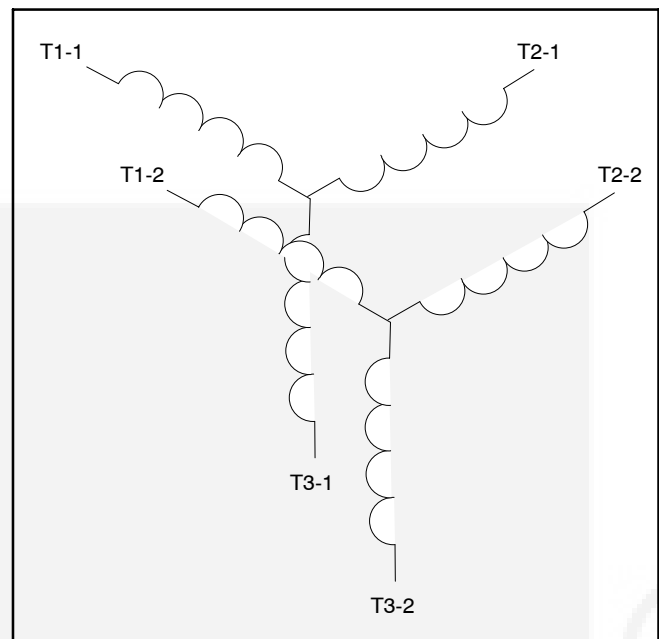
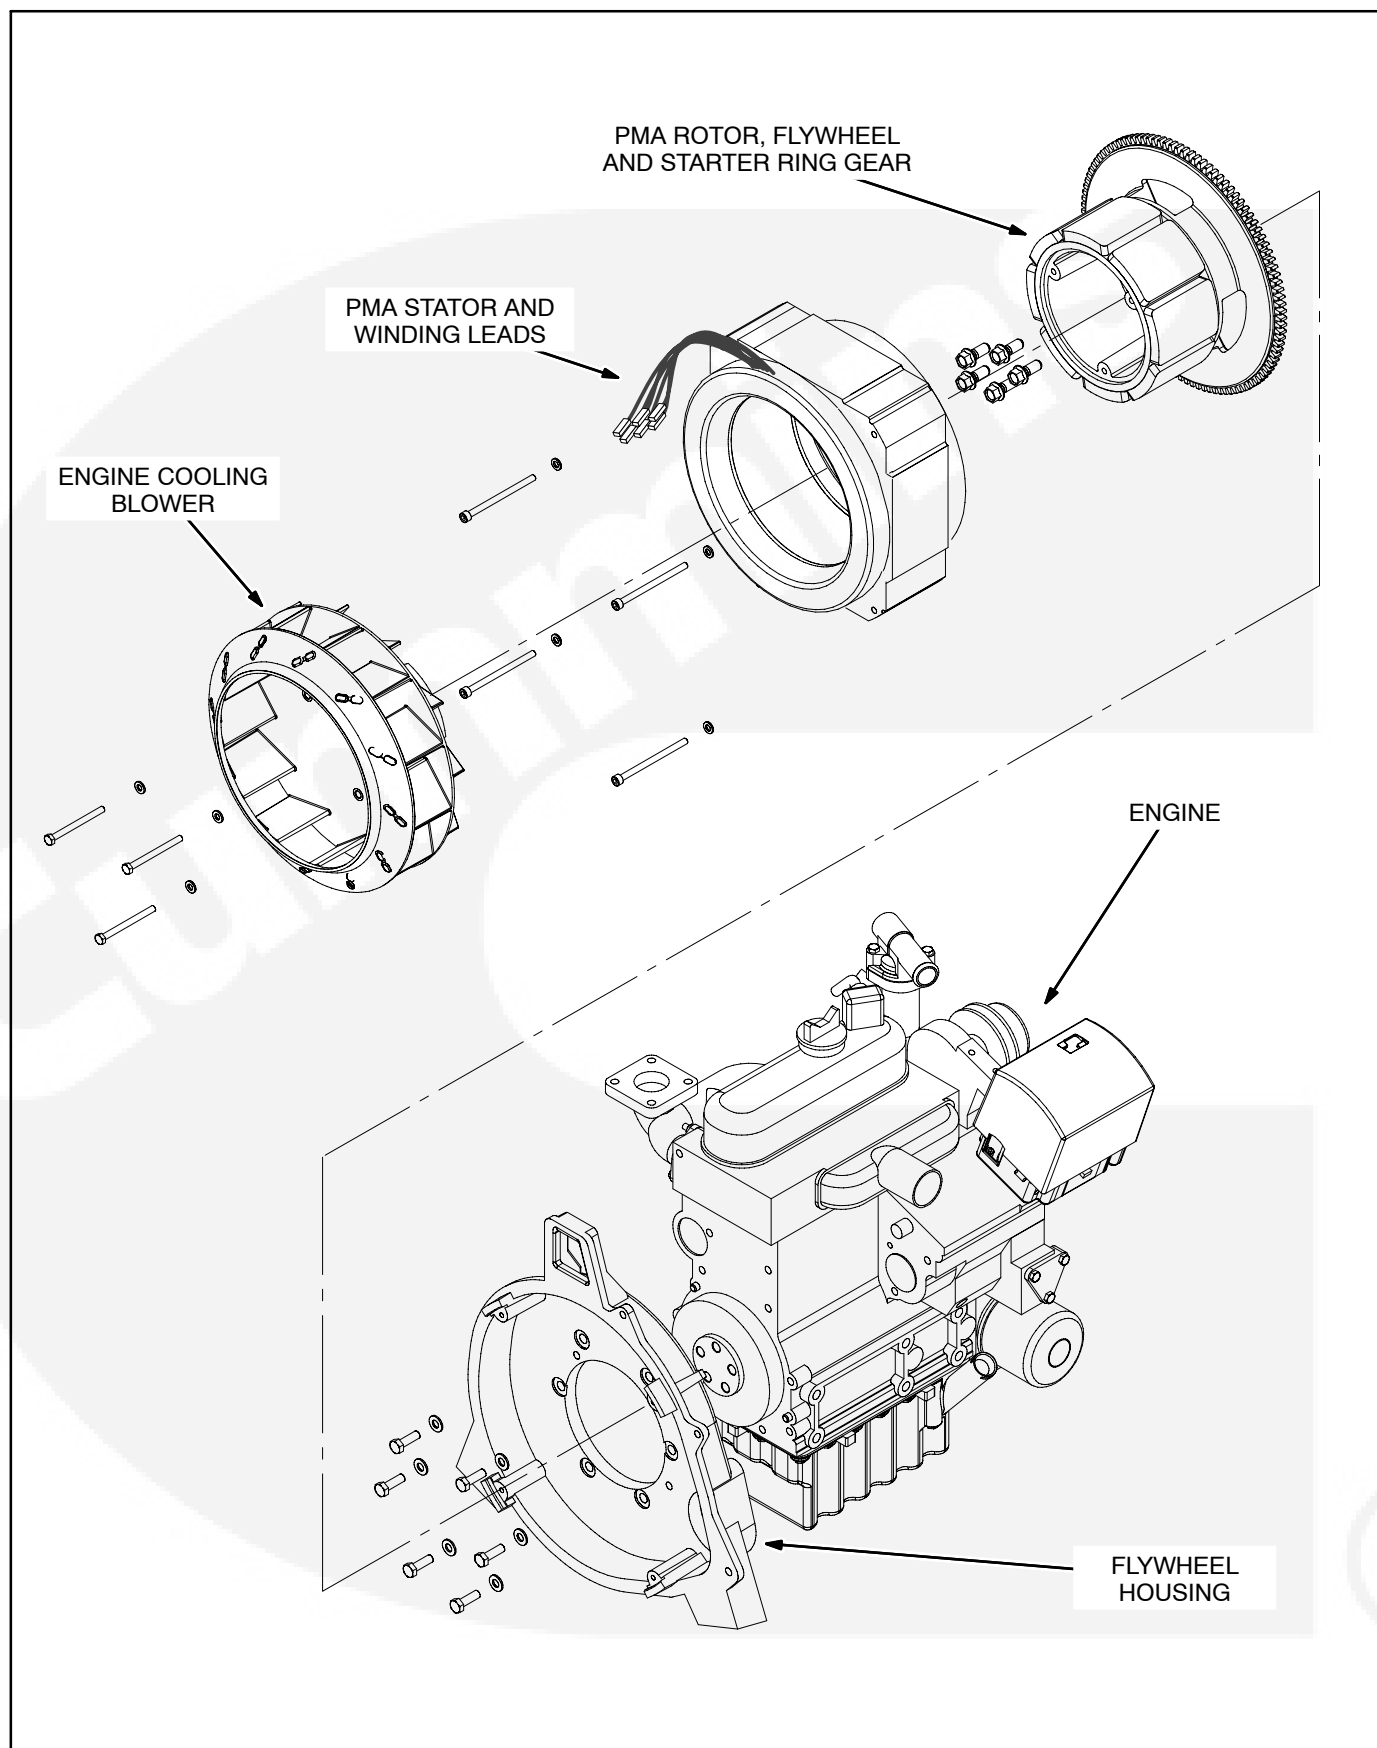

FIGURE 11-1. STATOR WINDING GROUPS
FIGURE 11-2. PMA ASSEMBLY
The genset has an 8-pole permanent magnet alternator (PMA) type of generator with a 3-phase stator (Figure 11-1). The magnets are bonded to the rotor with adhesive. The rotor is a one piece casting with the flywheel. A bearing is not used to support the end of the rotor and there are no slip rings, brushes or exciters. See Figure 11-2.
4. Remove the blower (Figure 11-2).
Installation is the reverse of removal. The stator leads must be oriented as shown (Figure 11-2). The stator must sit square within the four guide ears in the flywheel housing. Tighten all bolts and screws according to *Thread Torques*.
6. Disconnect the PMA stator leads (Figure 11-2).
12. Remove the cooling blower, PMA stator, rotor and flywheel housing from the engine (Figure 11-2).
3. Disconnect the the PMA stator leads (Figure 11-2) to prevent strain when the inner bulkhead is tilted.